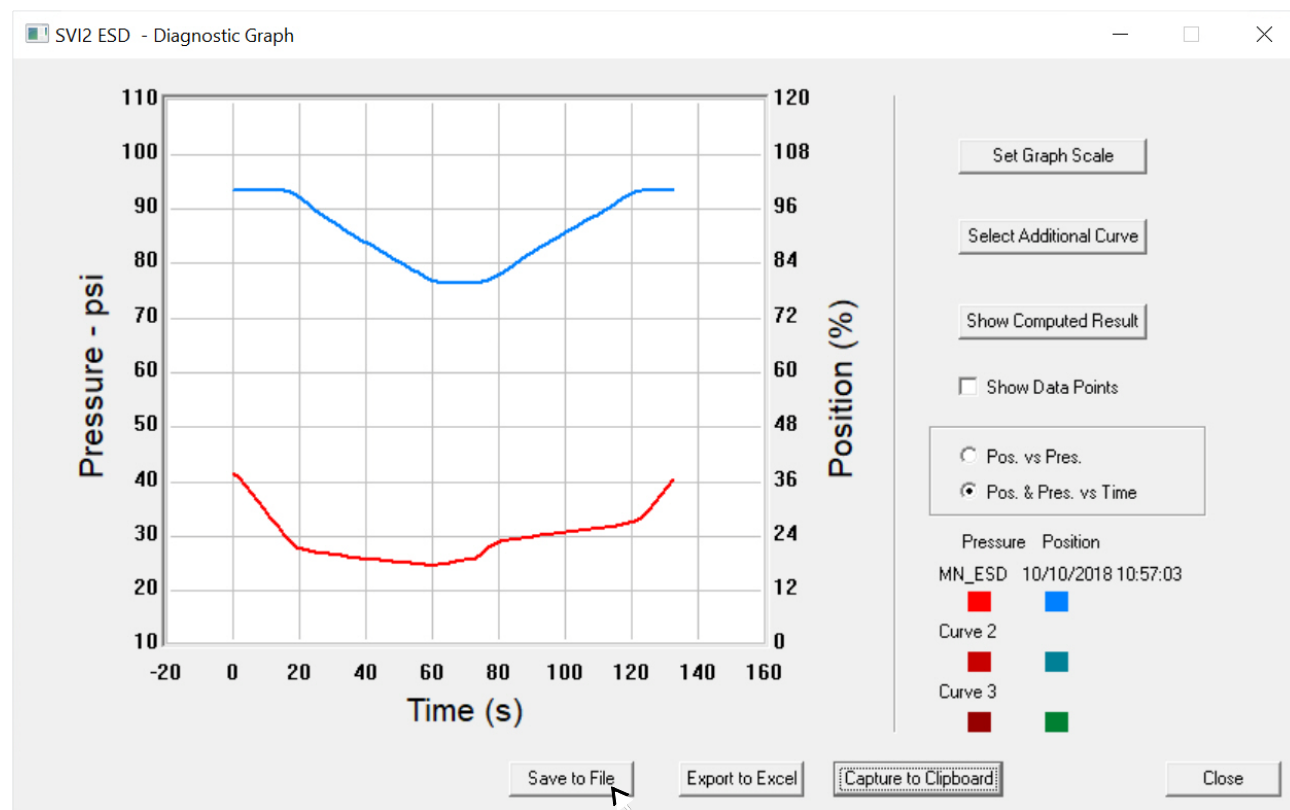

Figure 273 - Selecting Save to File
1. Select **Save To File** (*Figure 273*).